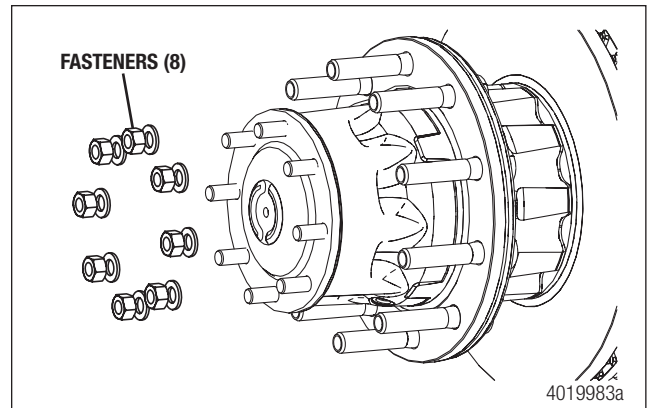

Figure 13
- f. If the axle shaft utilizes lock nuts, install eight new lock nuts and washers. If the axle shaft utilizes tapered dowels and non-locking nuts, apply Loctite® 242 threadlocker to the nuts. Install the eight nuts and washers. Tighten fasteners to the torque specified in following table. Figure 13.